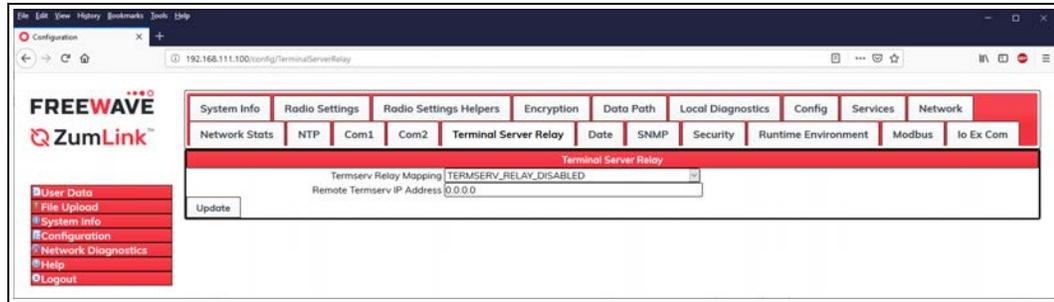

Figure 302: Terminal Server Relay window
6. Click the **Terminal Server Relay** tab to access the **Terminal Server Relay** parameters. Figure 302